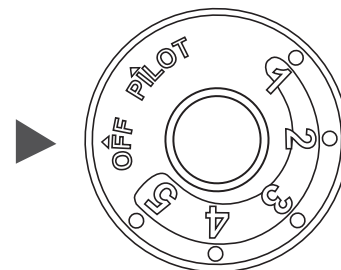
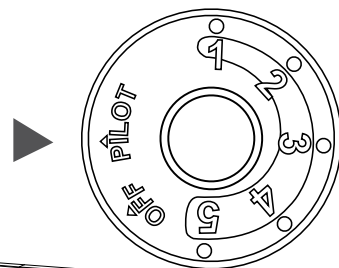

Fig. 22b
Fig. 23b
3. Turn control knob clockwise ↷ to "OFF" position. (See Fig. 22b)
4. Wait (5) minutes to clear out any gas. Then smell for gas, including near the floor. If you smell gas, STOP! Follow "B" in the safety information above. If you don't smell gas, go to the next step.
5. Turn knob counterclockwise ↶ to the "PILOT" position. (See Fig. 23b) Depress control knob.